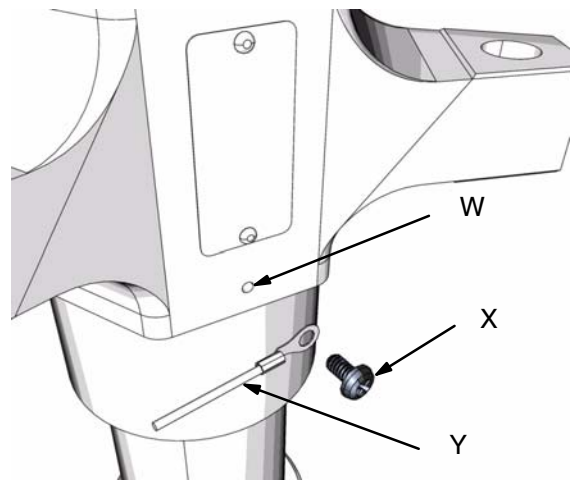

Fig. 1
1. *Pump:* the pump is grounded with a wire connecting the pump from the control enclosure. Locate the small hole (W) in the pump outlet housing. See Fig. 1. Attach the ground wire (Y) to the pump outlet housing using the ground screw (X) supplied with your system. Tighten the ground screw securely. Do not operate the equipment without the ground wire in place.